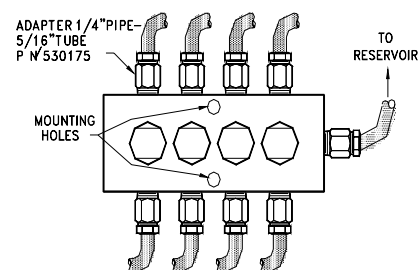

Figure 12. MCV-04 Charging Valve
1. Install appropriate adapters for the tubing used. For port locations see Figure 12.